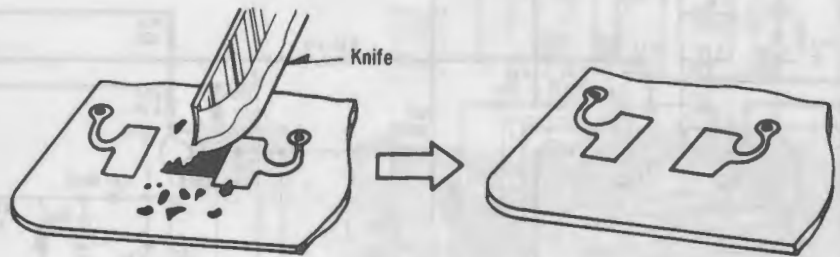

Fig. 2
1. Using a pointed screwdriver or knife, completely scrape the printed resistor as illustrated in Fig. 2, and remove its shavings.